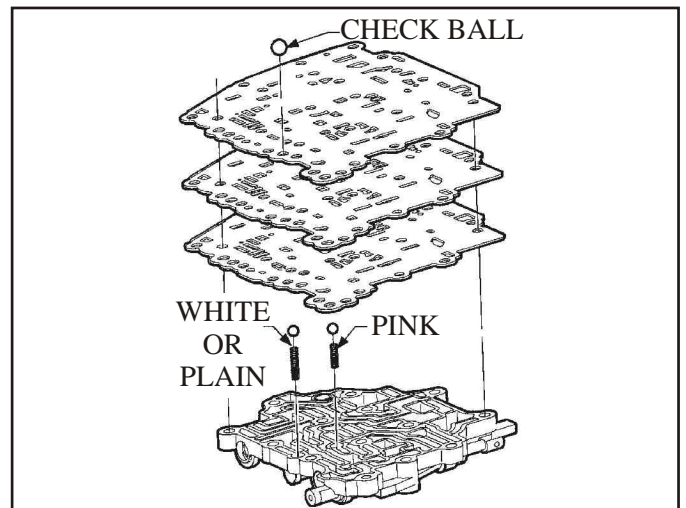

Figure 174
**IMPORTANT: Care must be taken when removing this last bolt as the two valve body halves will separate making it possible to loose the three check balls located in the valve body (See Figure 174).**